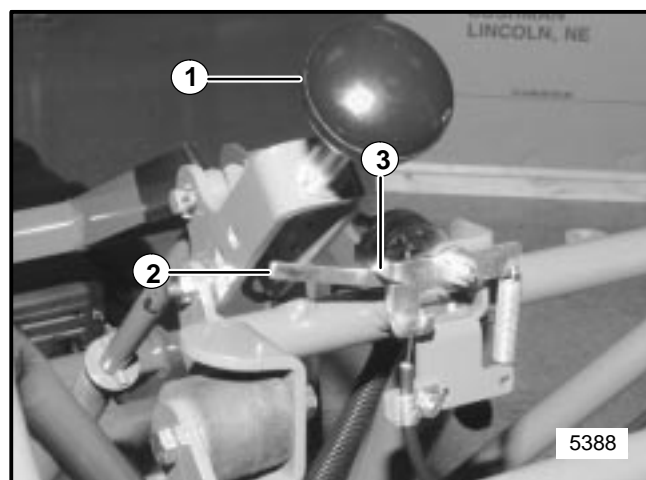

FIGURE 15
- Adjust cable until the pivot arm contacts the arm extending from the operator presence switch (see Figure 15).